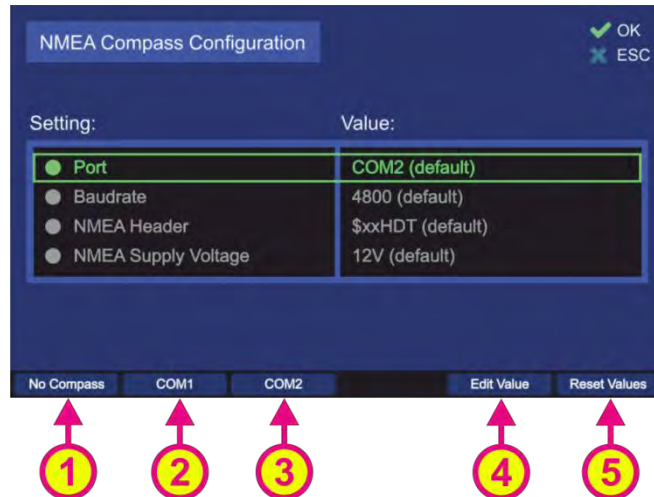
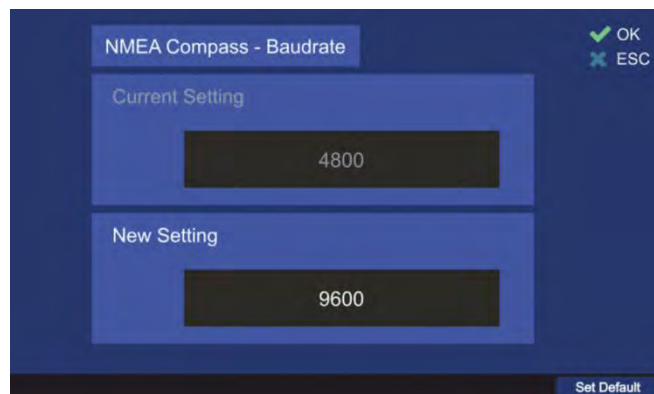
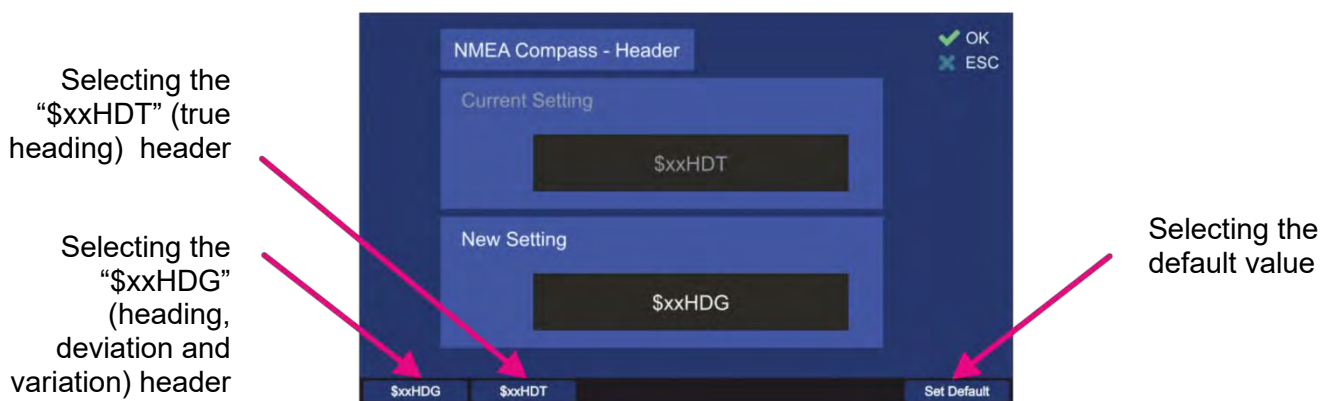

Figure 116. Compass configuration settings
Figure 118. Compass baud rate setting
Figure 119. Compass header setting
- o Press the button “OK” or hotkey “Edit Value”, while the setting “NMEA Compass” is marked. Following sub-menu will appear (s. Figure 116).
Pressing the hotkey “Reset Values” (s. Figure 116, position 5) will set all menu items to default values. To go out of dialog confirming all changes, which have been made within the sub-dialogs for the single settings, press “OK”.
- o The communication port can be changed by pressing one of the three hotkeys “No Compass”, “COM1” or “COM2” (s. Figure 116, positions 1, 2 or 3) or the hotkey “Edit Value” while menu item “Port” is marked (s. Figure 116, position 4).
Using the hotkeys 1, 2 or 3 on the top level dialog “NMEA Compass Configuration” (s. Figure 116), the value of the “Port” setting can be changed without opening the corresponding dialog.
- o To change the baud rate, press the hotkey “Edit Value” while the menu item “Baudrate” is marked (s. Figure 116). The corresponding sub-dialog will be opened (s. Figure 118).
- o In order to change the NMEA header setting, press the hotkey “Edit Value” while the menu item “NMEA Header” is marked (s. Figure 116). The corresponding sub-dialog will be opened (s. Figure 119).
- o Choose the new setting using one of the hotkeys (s. Figure 119), which will then appear in the “New Setting” field.